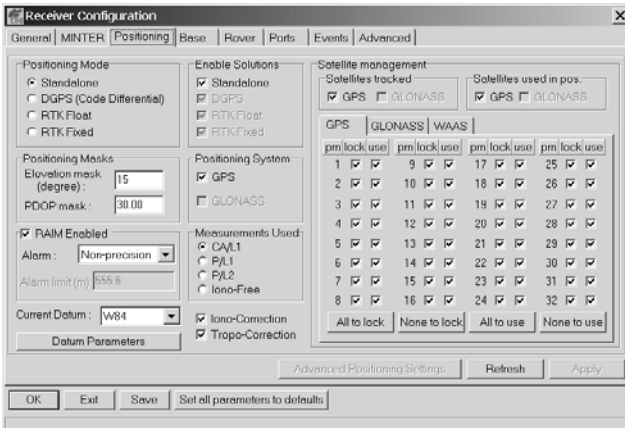

Figure 3-7. Receiver Configuration – Positioning
8. Select the **Positioning** tab and set the Elevation mask parameter to 15 (Figure 3-7), then click **Apply**.
4. Select the **Positioning** tab and set the Position Masks, Elevation mask (degrees) parameter to 15 (Figure 3-7 on page 3-11).